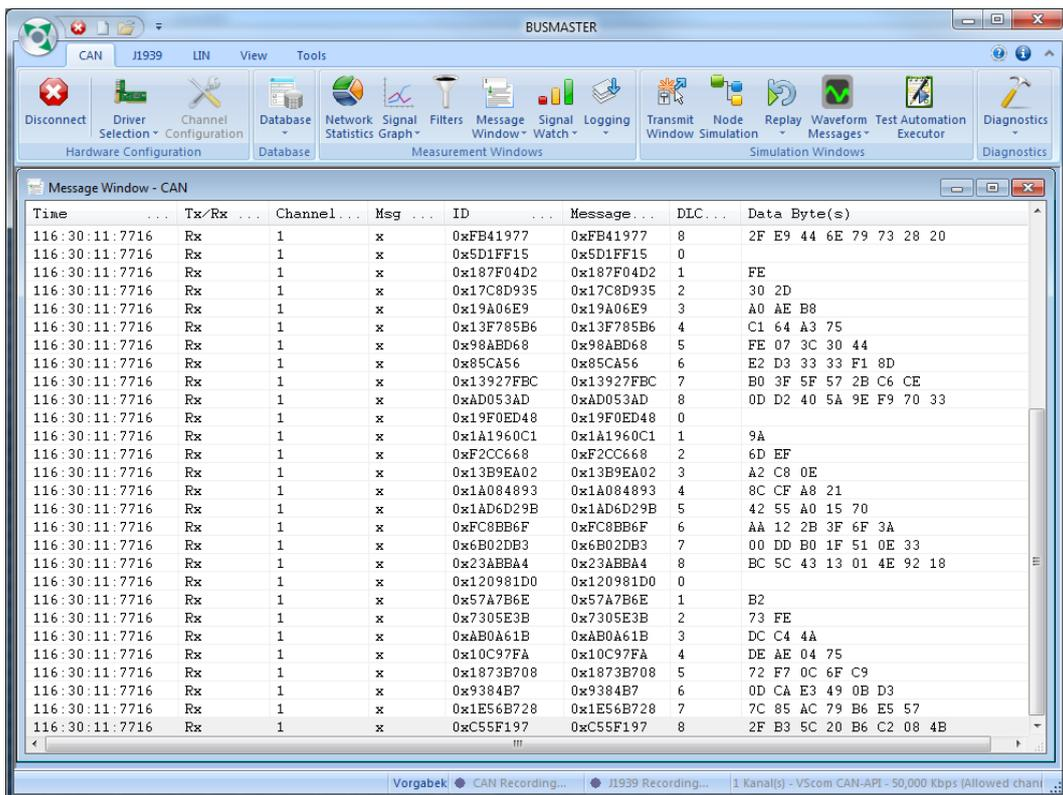

Figure 18: BUSMASTER: Received Frames
6. If there are CAN frames on your CAN bus, you’ll see them in the „Message Window” (see Figure 18)